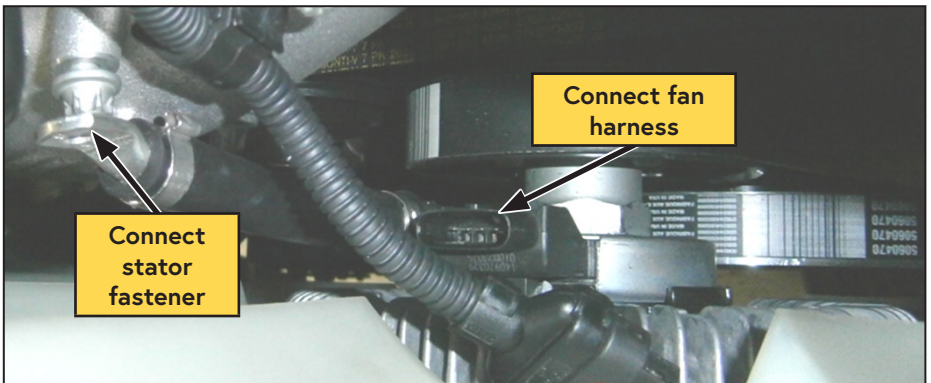

Figure 18 — Disconnect fan clutch
- Reconnect the fan harness (Figure 18).
- Reconnect the stator to the engine (Figure 18).